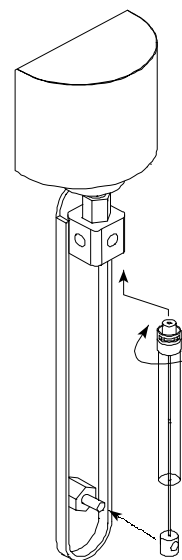

Figure 2.2 Replacing the syringe
4. Pull the bottom of the syringe towards you; you can now remove the syringe (refer to figure 2.2).